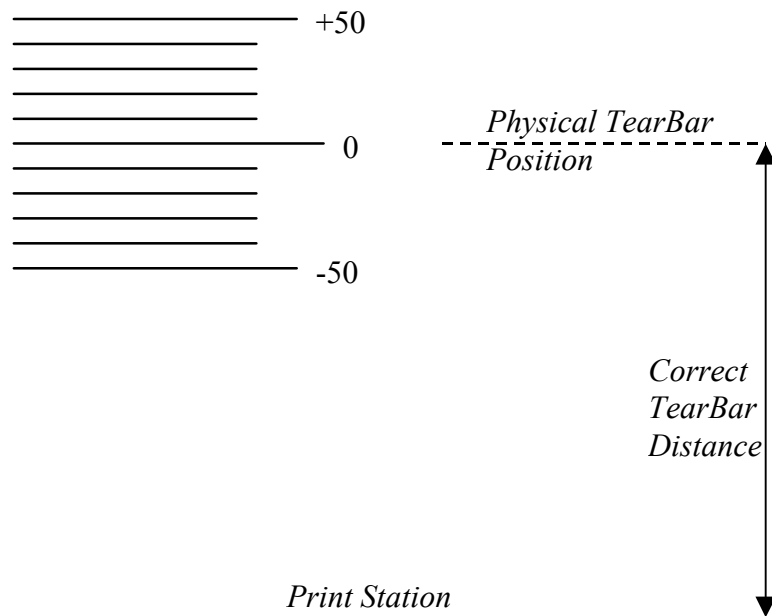

Figure 60. Correct Tear Bar Distance
9. Press **ENTER** to select the desired value. An asterisk appears next the selected value and a scale prints to indicate the tear bar distance in relation to the tear bar. For correct tear bar distance, the zero should align with the tear bar. See Figure 60.